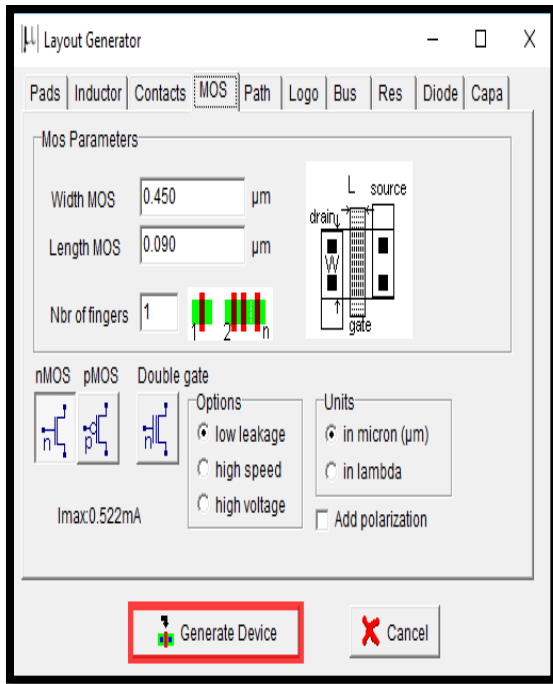

Figure 35: layout generator window
- Create another NMOS and place it in parallel to the first NMOS device. We share the two devices' drain diffusions (by using flip horizontal from edit menu). A DRC check can be run by clicking on Analysis -> Design Rule Checker. See figure 35: